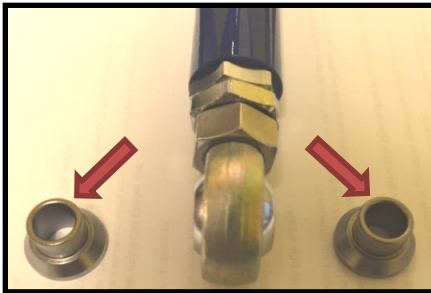
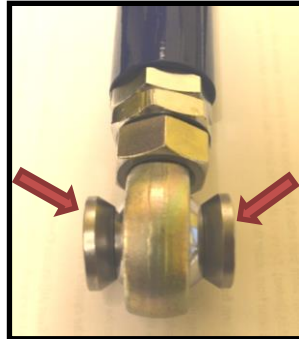

Figure 2a.
Figure 2b.
- a) **Insert spacers into CorkSport camber arm before replacing onto the vehicle** (four spacers per camber arm.) Figure 2a shows the two pieces that go on either end and Figure 2b show the unit assembled.
- a) Insert the provided spacers into CorkSport camber arm before replacing it on the vehicle (four spacers per camber arm.) **Figure 2a** shows the two pieces that go on either end and **Figure 2b** show the unit assembled.